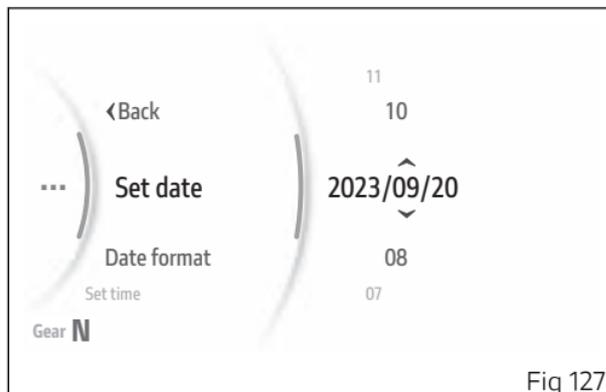

Fig 127
The arrows and available values appear for the second parameter, which is the month in the example shown here (Fig 127). Use buttons (1) and (2) to scroll and select the desired value. Press ENTER (3) to confirm and move on to the following parameter.